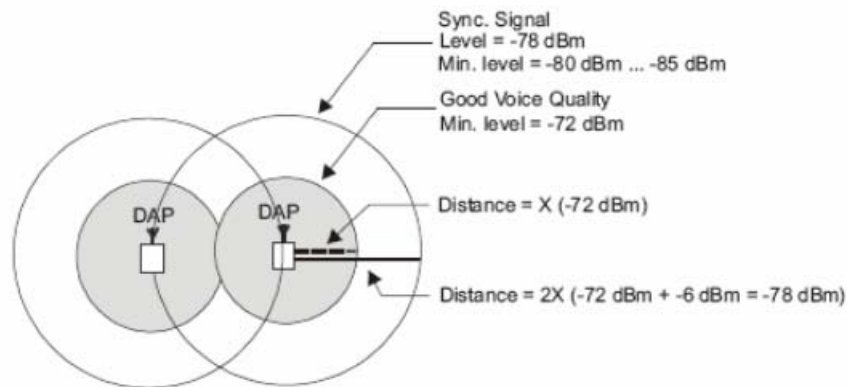

Figure 4: Signal strength considerations
- In an open area, the distance is doubled if the received signal strength is 6 dB lower. This means that at a minimum signal strength for good voice quality of --72 dBm and a distance X, the signal strength at the double distance, 2X, is --78 dBm. For more information, see Figure 4: Signal strength considerations on page 23.